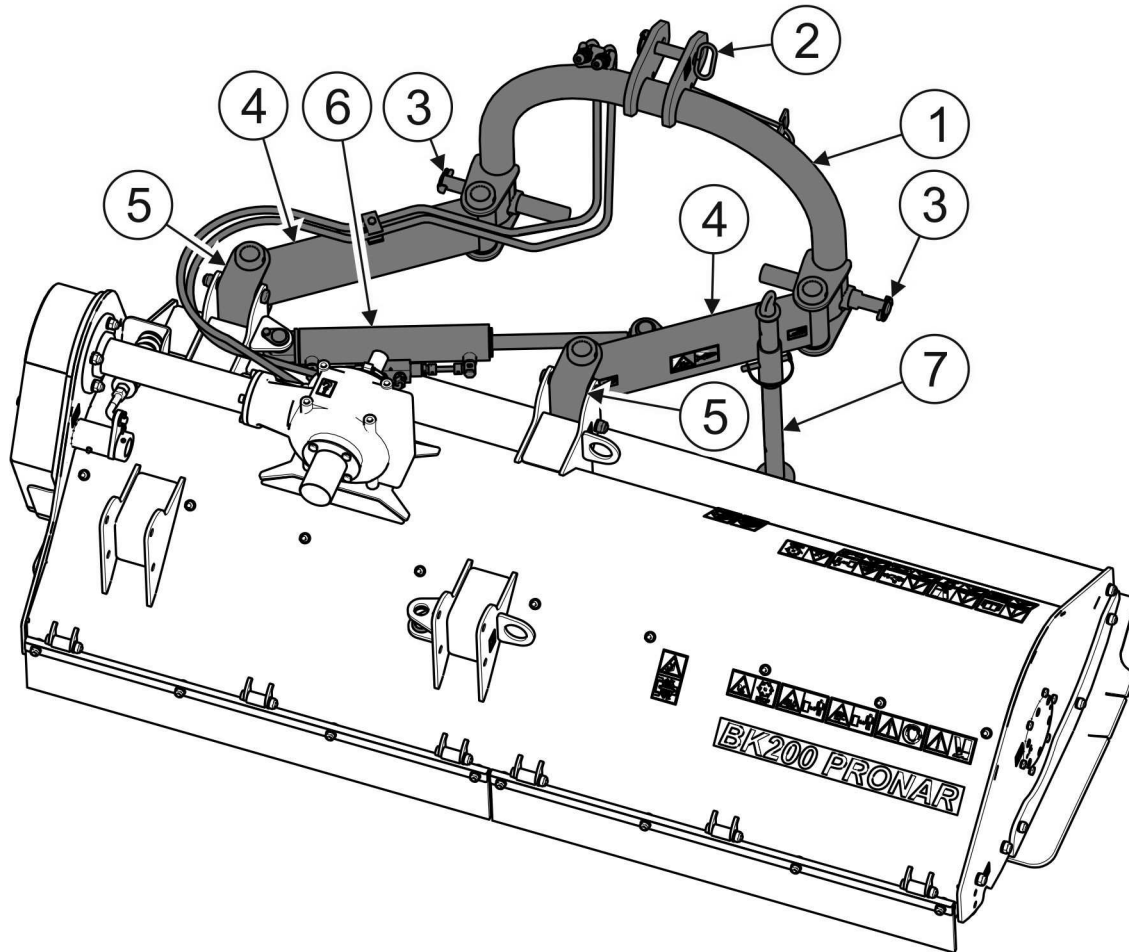

FIG. 3.2 Linkage
The main element of the mower linkage (FIGURE 3.2) is the three-point linkage frame (1), equipped with two lower pins (3) and upper pin (2) for connection to the tractor's rear three point linkage. Movable hitching eyes (4) connected to hydraulic tipping cylinder (6) enable shift of the cutting unit to the left or right in relation to tractor. Such design facilitates manoeuvring the mower between trees, road signs or roadside posts and barriers.